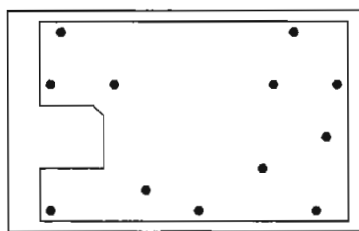

Figure 4 Rear view of the front panel assembly
3. Remove the 12 screws fixing the PCB (Figure 4).